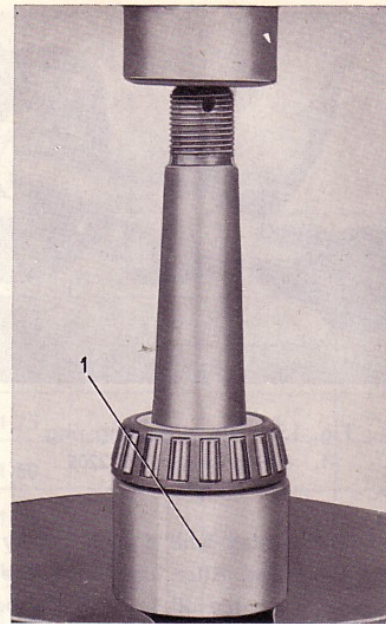
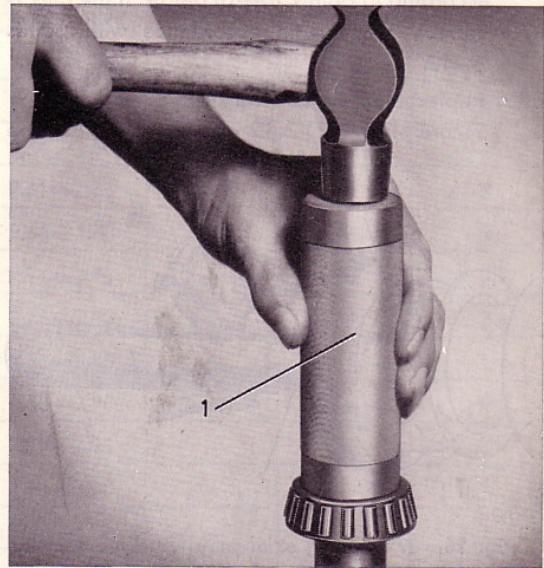

Fig. 13. Removing drive shaft bearings
Fig. 14. Fitting drive shaft bearings
3. Press off the bearing, see Fig. 13. Use tool SVO 1806 under the bearing. Fit the new bearing with the help of sleeve SVO 1805, see Fig. 14.